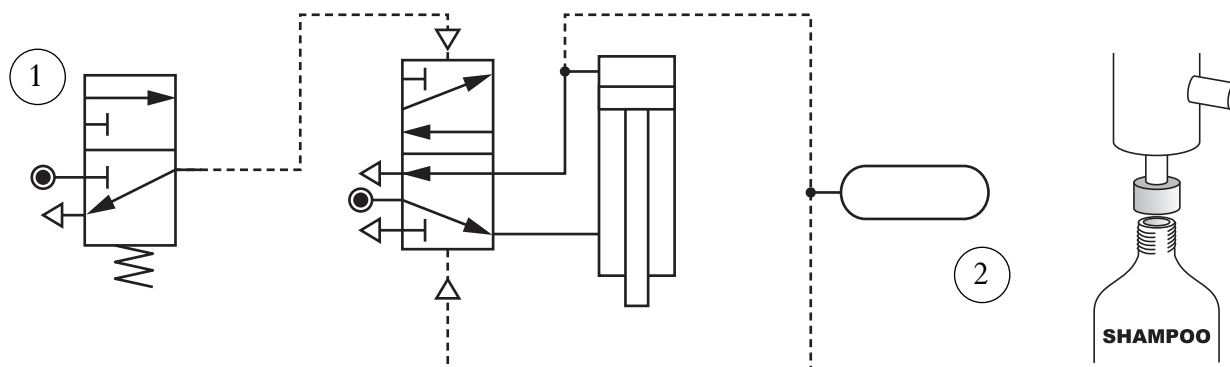

Figure Q11(a)
11. Figure Q11(a) shows an incomplete pneumatic circuit used to fix tops on shampoo bottles.